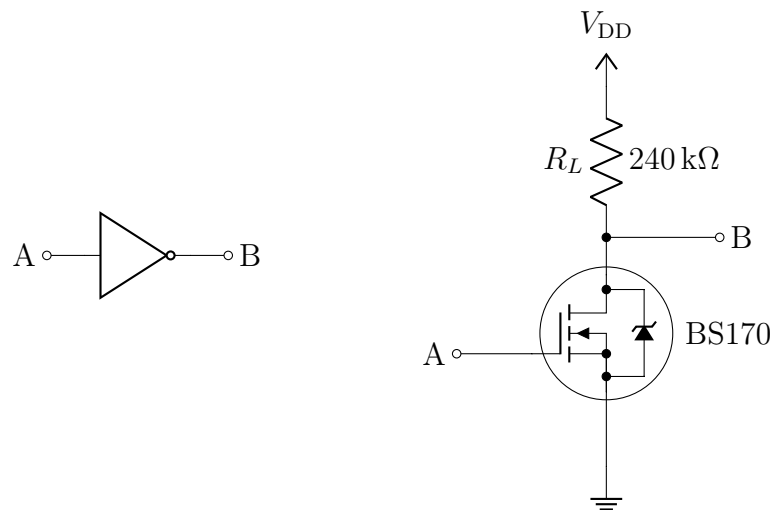
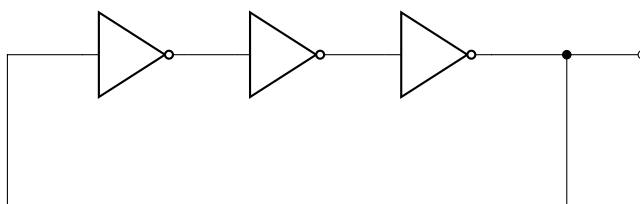

Figure 3: Inverter Gate Symbol and Discrete Diode Implementation
Figure 6: Ring Oscillator Using 3 Inverters
An inverting function cannot be implemented with diodes and resistors alone. A transistor is needed to provide the inverting action. In this lab, you will use the BS170 N-type Metal Oxide Semiconductor Field Effect Transistor (NMOSFET). If the voltage present at the gate of the transistor is above 0.7 V (high), the transistor will conduct, reducing the output voltage to logical ‘0’. If the input voltage is logical ‘0’ (low), then the transistor does not conduct, and zero voltage drops across the load resistor which results in the output voltage being ‘1’. A current-limiting resistor at the gate is always needed, otherwise excessive gate current might destroy the transistor. The circuit used in the electrical characterization of the MOS inverter with a resistive load is shown in Figure 3. Digital integrated circuits are circuits based on the principles of Boolean algebra. The binary logic variables in this algebra can assume only one of two possible values which are called the logical ‘0’ and ‘1’ levels. In the electronic circuit implementation of Boolean algebra, these variables correspond to the values designated by the voltages  $V_{OL}$  and  $V_{OH}$ .
We usually denote negation with a bar above a character. Hence, in Figure 3 we have
2. One very useful application of an Inverter gate is the Inverter Ring Oscillator shown in Figure 6. You will build a self-sustaining Ring Oscillator and measure its output square-wave frequency. (A similar circuit can be built using NAND gates chained together. You have all the knowledge you need to build this circuit, too. Hint: to build a Ring Oscillator with NAND gates, one of the two inputs needs be set to Ground. Most designers choose either the A or B input to be grounded for each NAND gate in the chain in this application.)
1. Build the Ring Oscillator in Figure 6 using an odd number of the discrete NMOSFET BS170 Inverters shown in Figure 3. Observe the output waveform. Notice that no input excitation at the first inverter is needed; the circuit should oscillate at a high frequency when the inverters are on (i.e. when VDD is applied to each discrete MOSFET inverter). Zoom out to view at least 4 periods of the ring oscillator output when determining its period of oscillation.